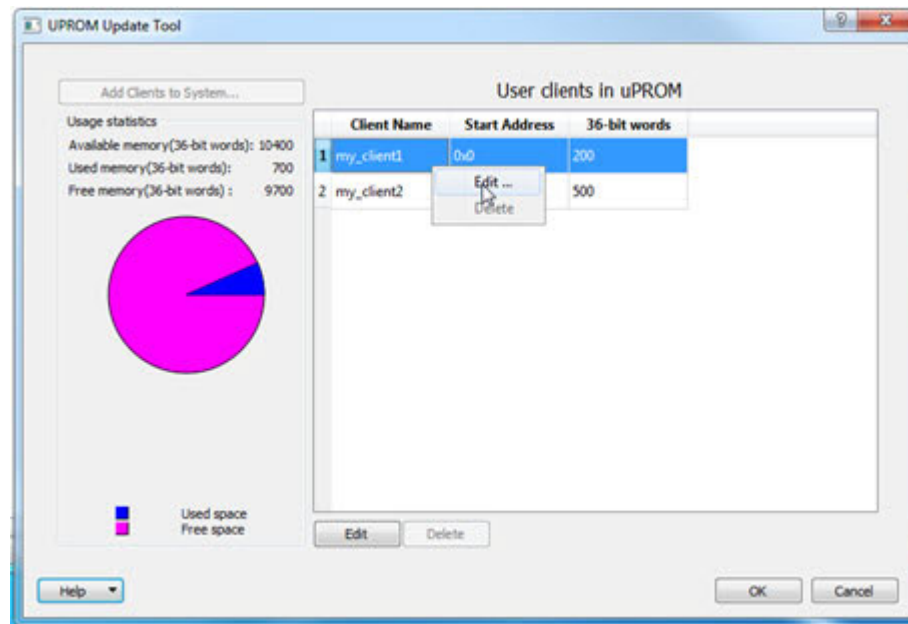

Figure 1-10 • uPROM Update tool
2. When the uPROM Update Tool appears, right-click the Memory Client you want to update and choose **Edit** (Figure 1-10).